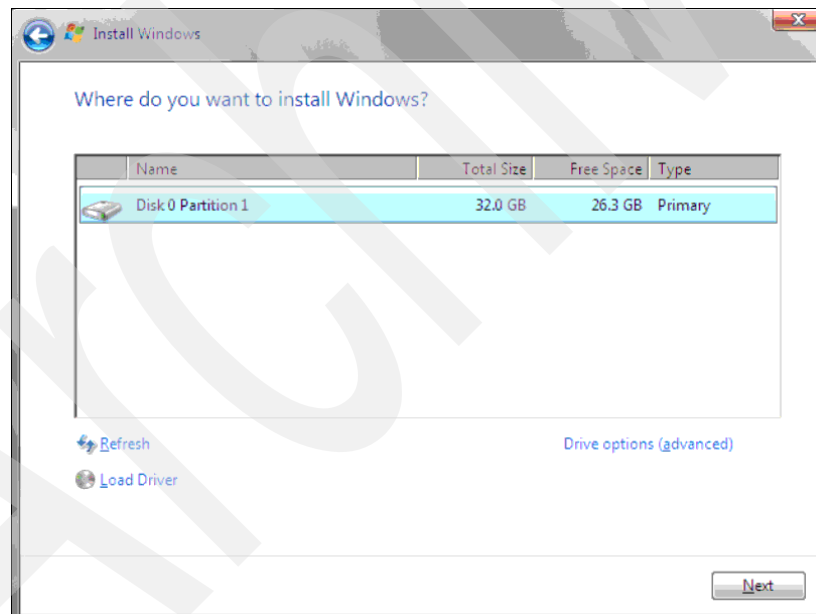

Figure 5-33 SAN Disk recognition
2. After the drive is correctly recognized, select the drive and click **Next** (Figure 5-33).